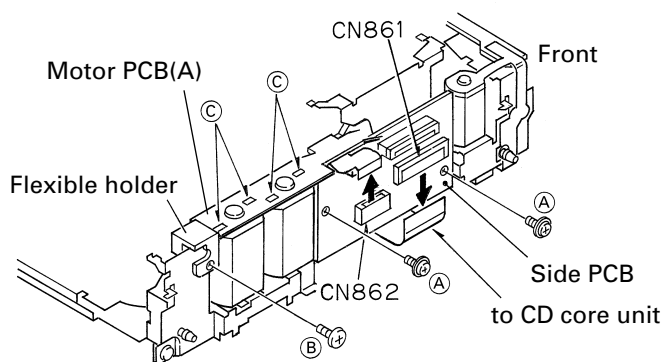

Fig. 9
Disconnect the the flexible PCB (Motor PCB (A)) from the connector CN862 on the Side PCB. (See Fig. 9)
Remove the Side PCB. (See Fig. 9)
Remove the Motor PCB (A). (See Fig. 9)